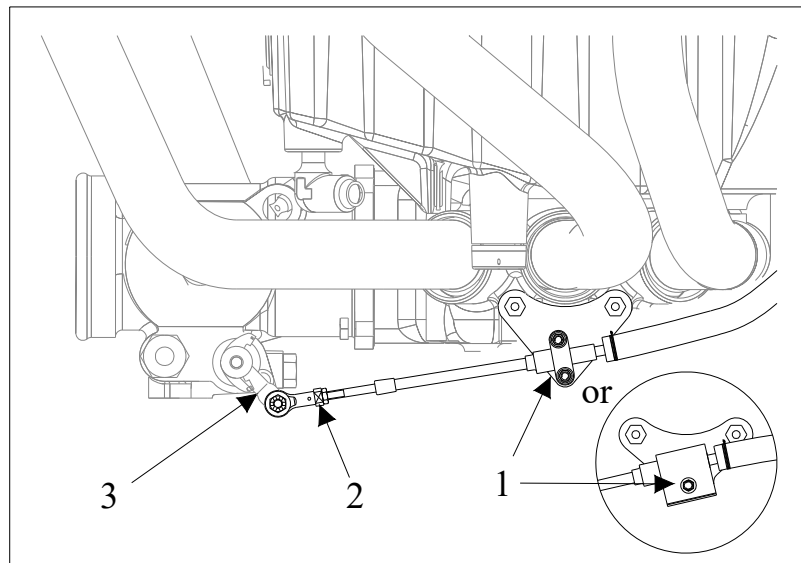

*Figure 7 Over-travel at Mixture Control Unit,*
- 2 Check that the travel stop at the mixture control lever is reached, and the over-travel of 5mm [3/16"] (tolerance +/-1 mm [1/32"]) is ensured at the mixture control knob (see Figure 7).